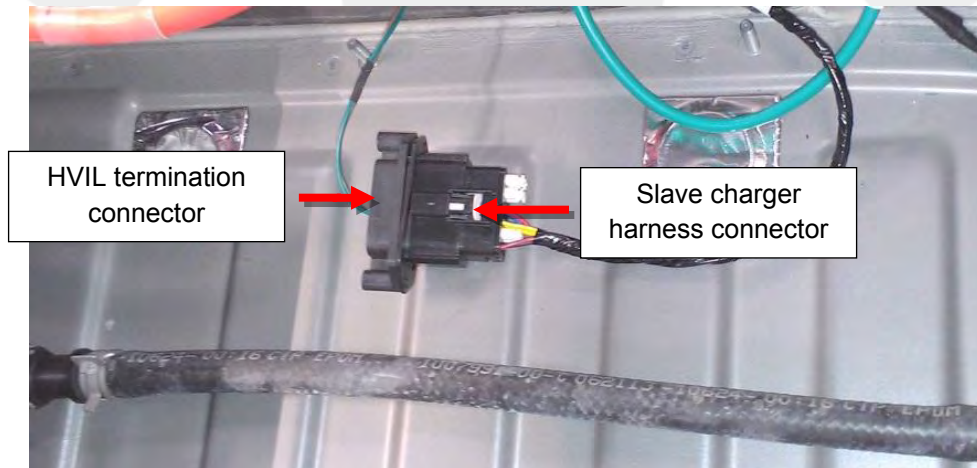

Figure 3
1. Disconnect the slave charger harness connector from the HVIL termination connector (Figure 3).